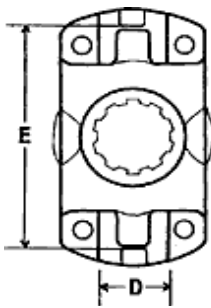
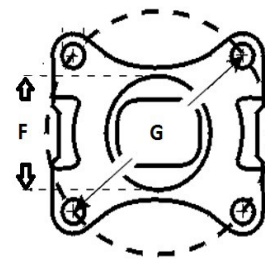

Figure 1
Figure 3
Before we build the driveline, we must verify how your drive shaft attaches to the vehicle. **Figure 1 & 2** illustrate how to measure for u-joint series and/or yoke series. **Figure 3** illustrates how to measure the flange pattern (G) and pilot hole (F). These are critical dimensions needed to build your drive shaft. We **MUST** verify these measurements **BEFORE** we quote your price and build.
Figure 3: The F dimension is the pilot diameter. The G dimension is the bolt pattern. Depending on the manufacturer, this bolt pattern will either be evenly spaced, or it will be a "rectangle" pattern.